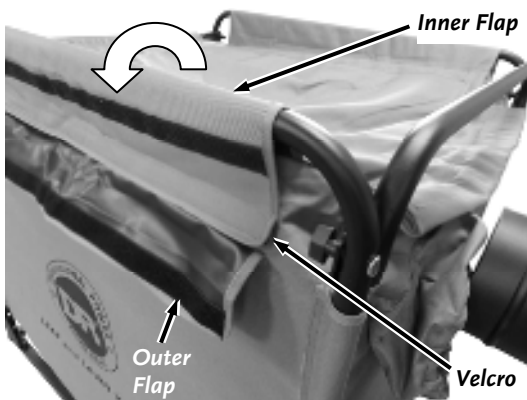

Figure 38
20. Fold the Inner Flap over the side Tube Frame and secure the Velcro next to the Outer Flap (**Figure 38**). Repeat for the other side.